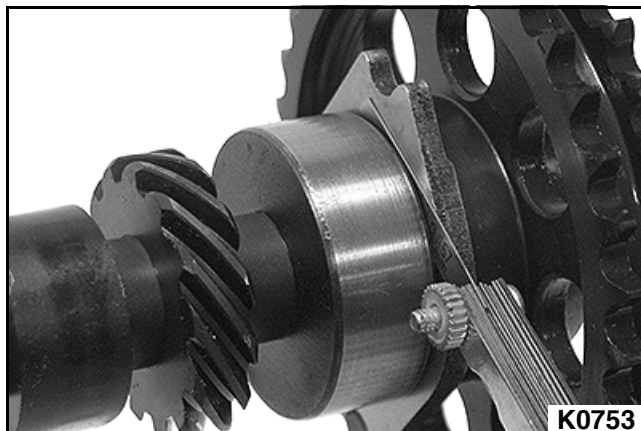

Figure 3-170
3. Using a feeler gauge, measure the thrust clearance between the thrust plate and camshaft. See Figure 3-170.